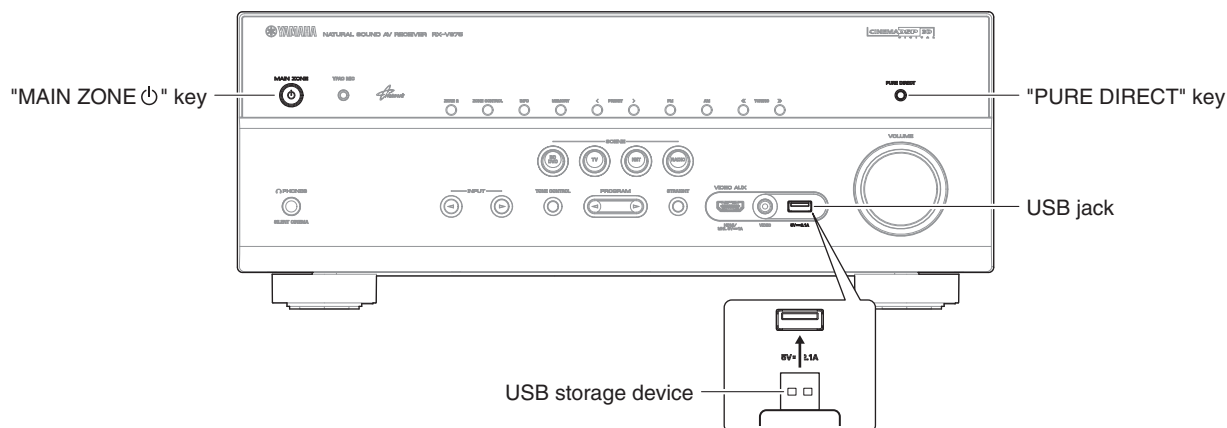

Fig. 1
1. Insert the USB storage device to the USB jack. (Fig. 1)
2. While pressing the "PURE DIRECT" key, connect the power cable to the AC outlet. (Fig. 1)
5. Press the "MAIN ZONE" key to turn off the power. (Fig. 1)
6. Remove the USB storage device from the USB jack. (Fig. 1)